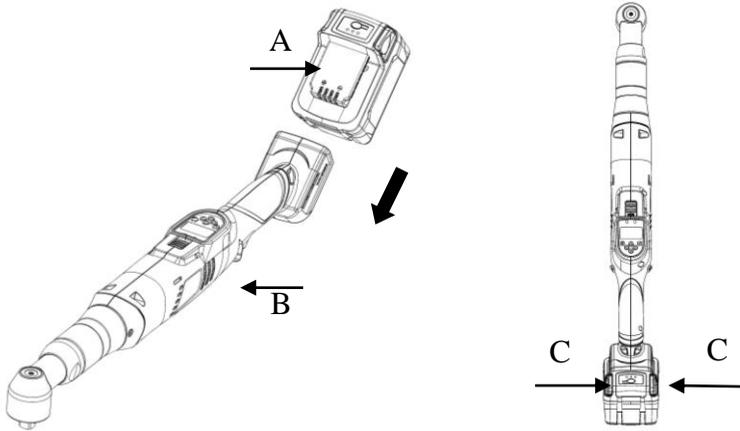

Fig. 1
TO INSTALL BATTERY PACK: Push battery pack (A) onto tool (B) until it locks in place. (see Fig. 1)
TO REMOVE BATTERY PACK: Depress the battery the two side release button and pull battery pack (A) out of tool (B). (see Fig.1)